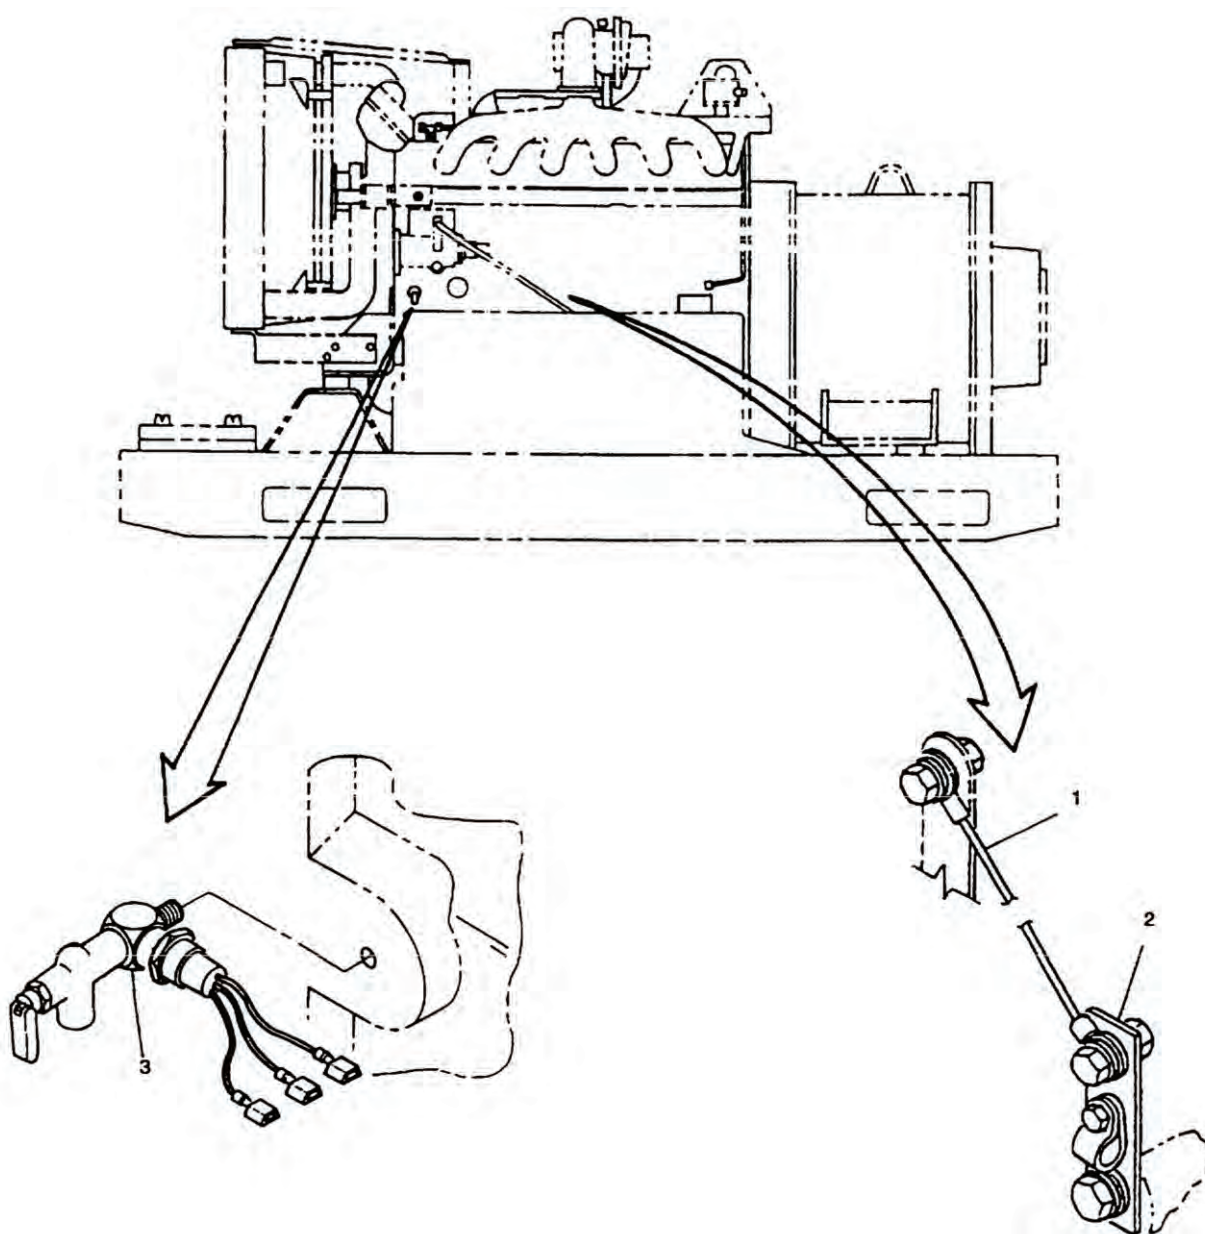

Figure 15. Engine Components (Left Side).
3. Disconnect throttle lever cable (Figure 15, Item 1) from fuel injection pump of old engine.
4. Remove throttle lever cable bracket (2), with cable (1) attached, from old engine and install on new engine.
5. Connect throttle lever cable (1) to fuel injection pump lever of new engine.
- a. Oil sample valve and low oil pressure switch assembly (Figure 15, Item 3).